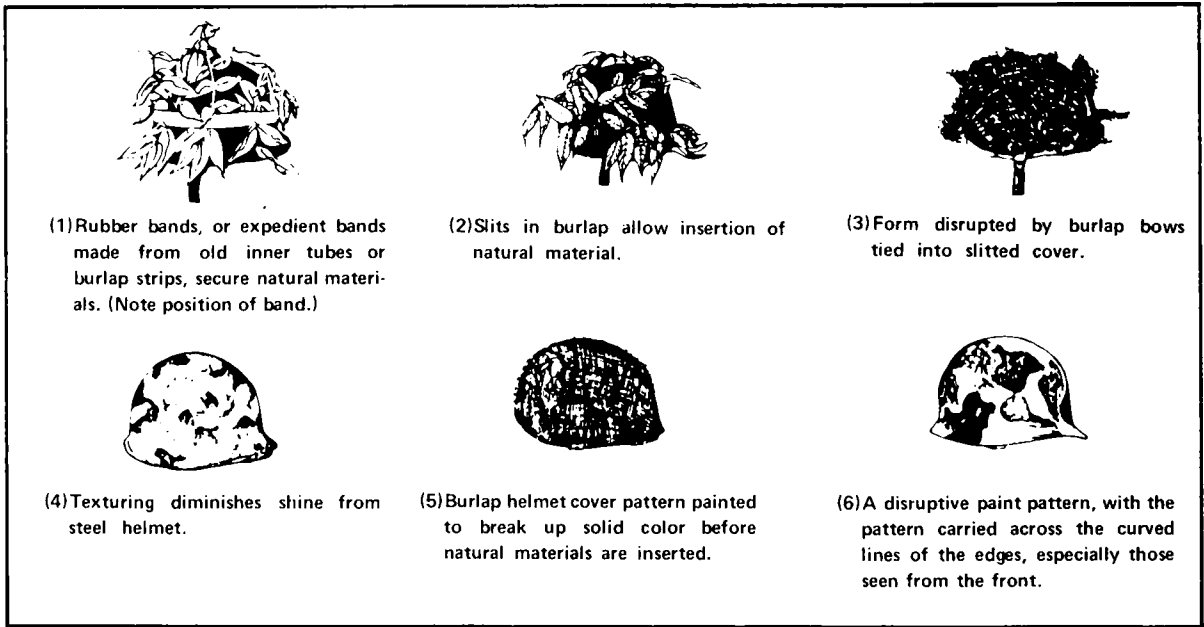

Figure 3.
3. Techniques for camouflaging the helmet (fig. 3).